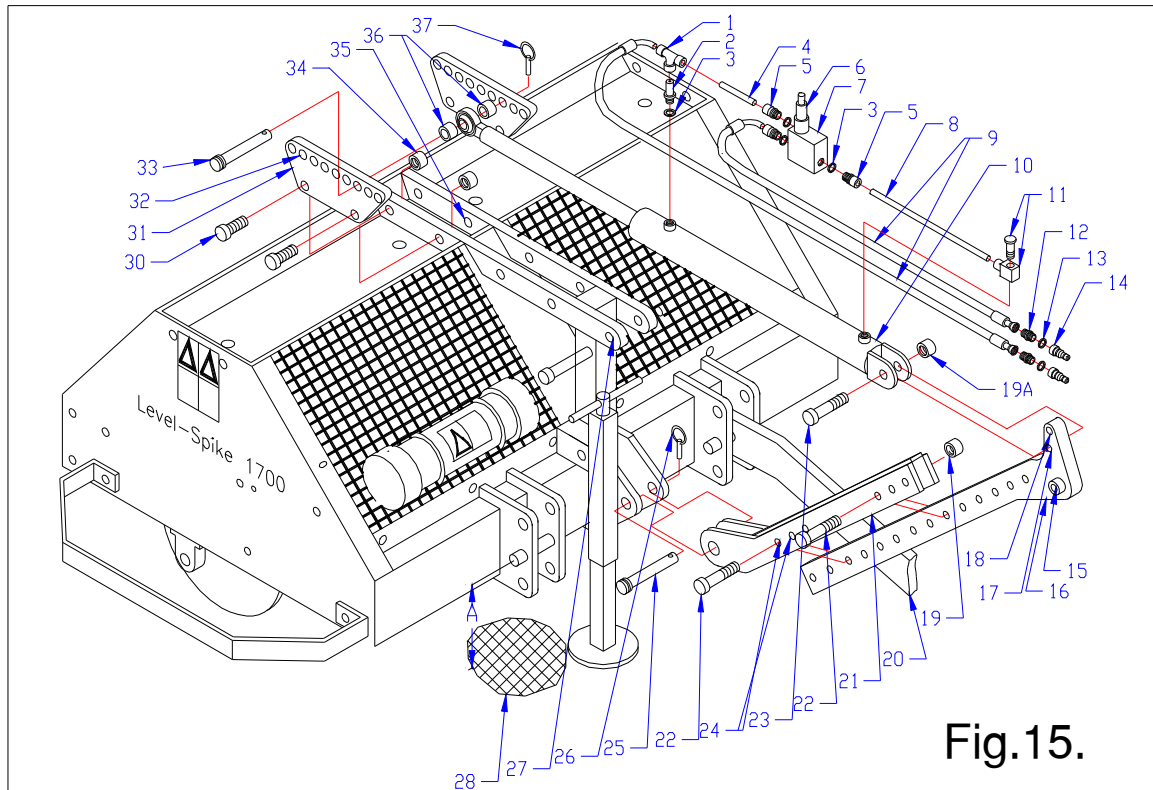

Fig.15.
12.6 WEIGHT TRANSFER KIT, See fig.15.
Assemble the components to the hydraulic cylinder, see Fig. 15. The flow reducer 2 is screwed in the hydraulic cylinder 10. Use copper washer 3. Fit all three connectors 5 to the pressure relief valve 7, using washers 3. Slide the tubes 4/8 fully into the connectors 5, T connector 1 and screw able connector 11. Mount everything onto the cylinder ports. When everything fits, tighten all connectors, keeping the valve 7 vertical up. Next hoses 9 can be fitted to the connectors 1 and 5. At the other end of the hose a threaded nipple 12 fits, on which a quick Fit connector 14 can be mounted, using a copper washer 13 to seal. When everything is tight, the hydraulic cylinder assembly is ready to use.
Fit the symmetric plates 31 with bolts 30 and nuts 34 to the standard holes 35 of the machine, as is shown in fig. 15.